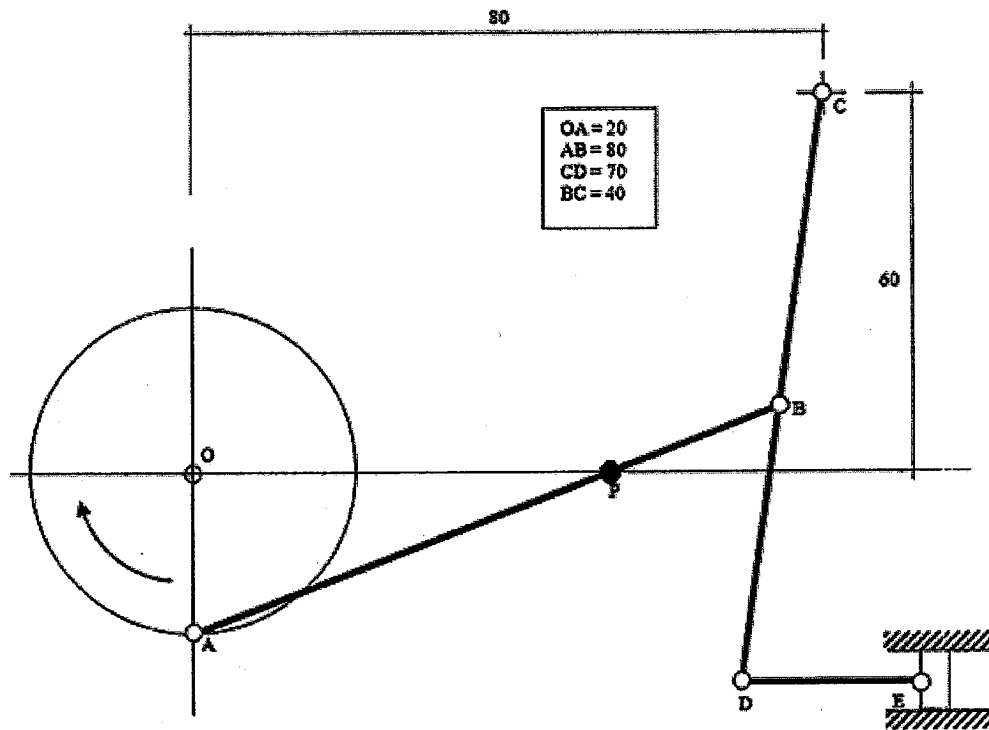

Figure Q3
- Q3. In the mechanism shown in Figure Q3, the 40mm diameter rotating disk drives the connecting link AB which in turn is connected at B to link CD which itself is hinged at C. End D is further joined to a connecting rod DE which is hinged to the piston pump at E. Trace the locus of point P located at a distance in the current position as shown in the figure. Show also in one selected position, the linkage representing this mechanism using standard graphical components.